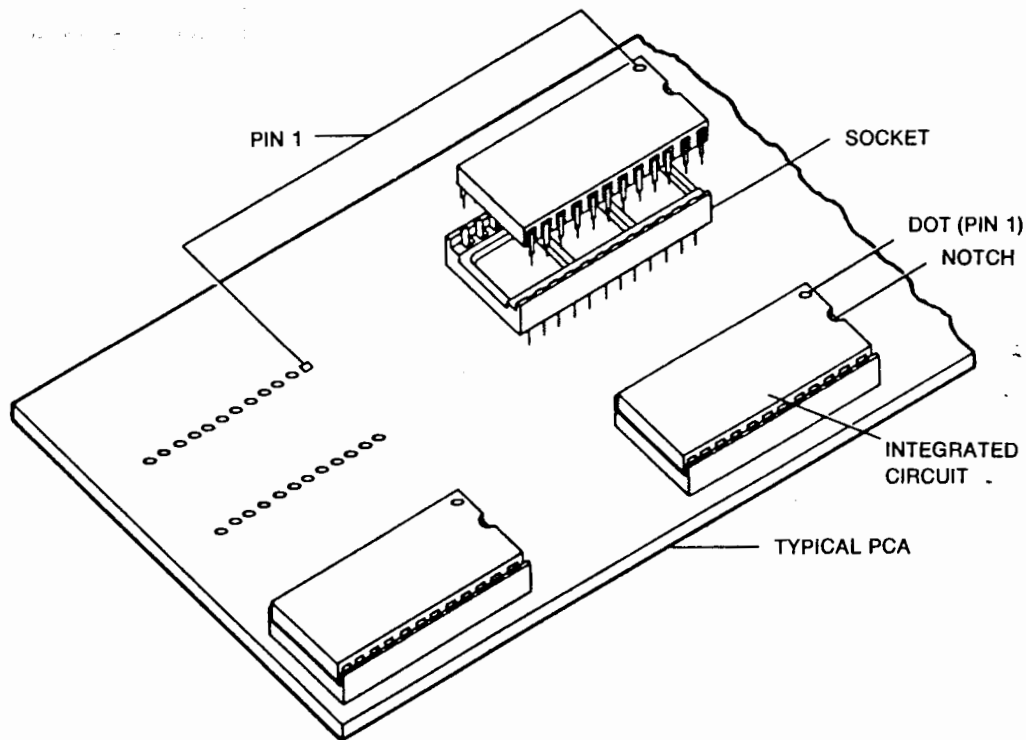

Figure 8-6. Socketed IC Insertion
1. Insert the IC in the socket. Be sure of proper chip orientation in the socket. Pin 1 on the chip (identified by a notch and/or a dot) should line up with pin 1 on the socket (identified by a notch and/or a square pin hole (see figure 8-6)).